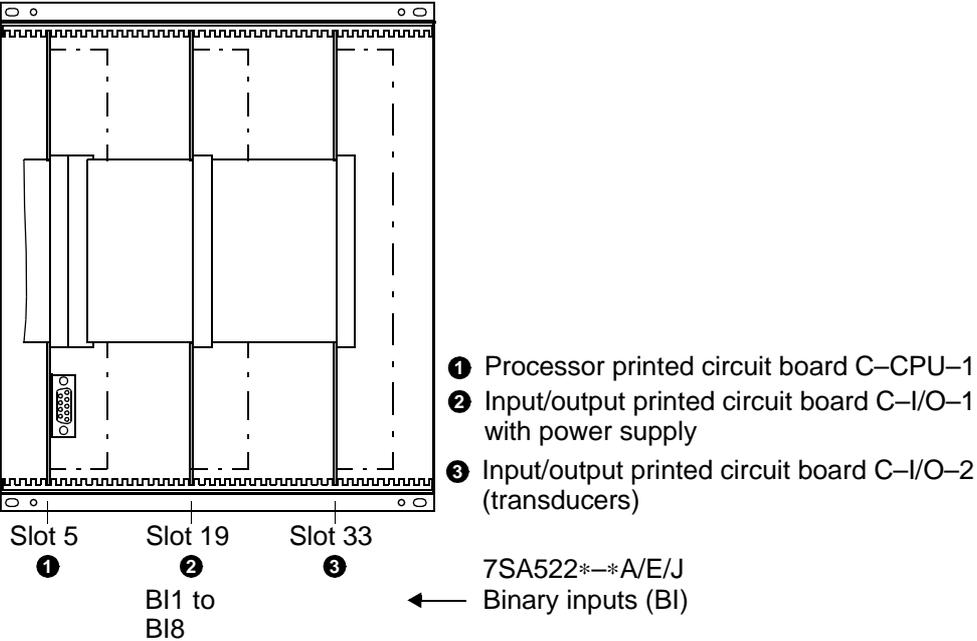
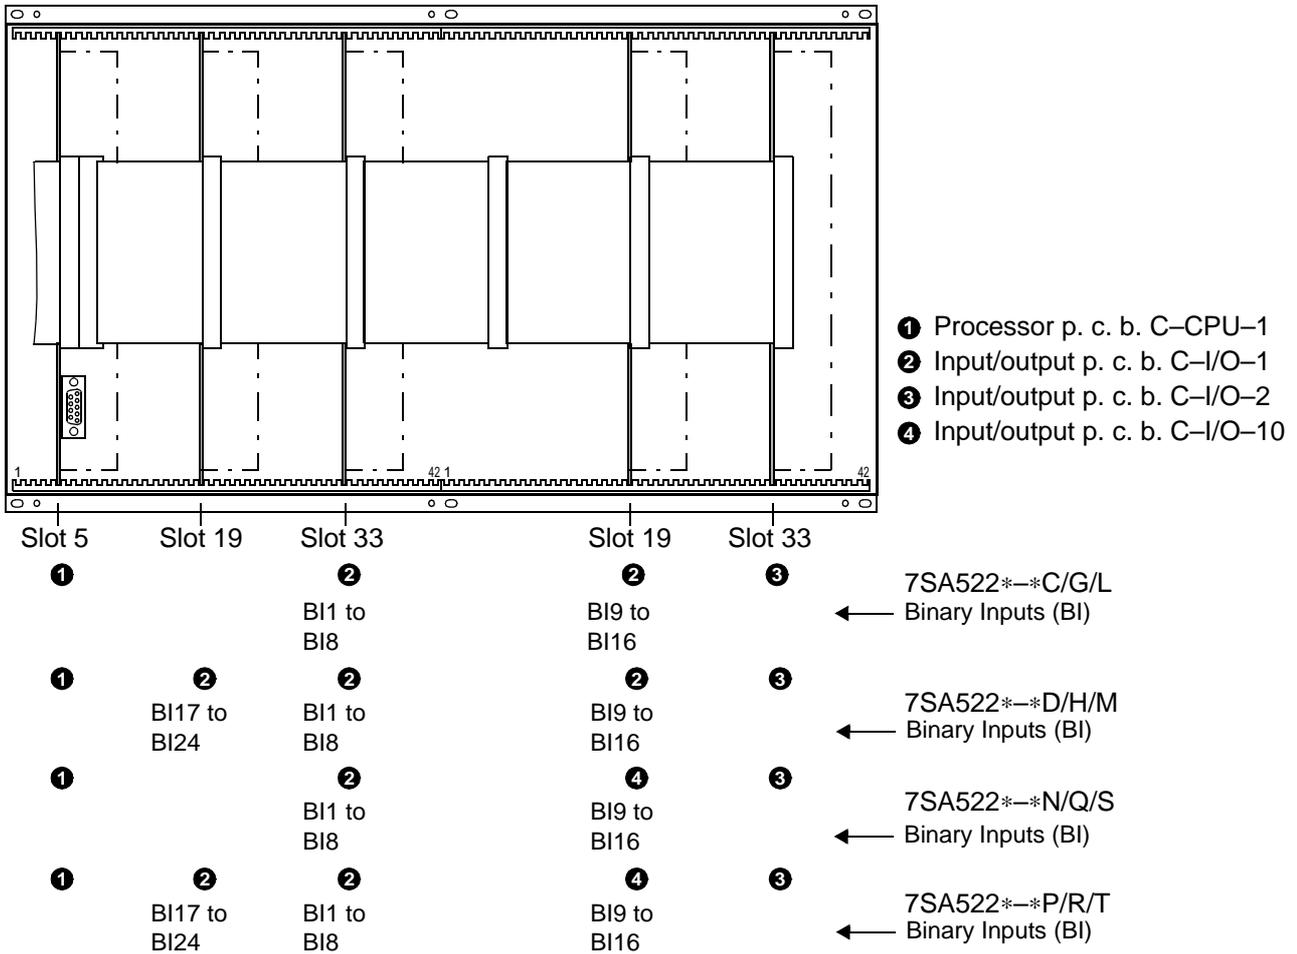

Figure 8-7 Front view of the device with housing size 1/2 after removal of the front cover (simplified and scaled down)
Figure 8-8 Front view of the device with housing size  $\frac{1}{4}$  after removal of the front cover (simplified and scaled down)
The allocation of the boards in the housing size  $1/2$  is shown in Figure 8-7, for housing size  $1/1$  refer to Figure 8-8.
- Refer to Figures 8-7 and 8-8 for the physical arrangement of the printed boards.
- The order of the boards for housing size  $1/2$  is shown in figure 8-7, for housing size  $1/1$  refer to figure 8-8.
for housing size  $1/2$  on the input/output board I/O-1 (● in Figure 8-7, slot 19),
for housing size  $1/1$  on the input/output board I/O-1 (● in Figure 8-8, slot 33 left).
BO16 and BO24 (Figure 8-8, slot 19 left and right);
BO16 (Figure 8-8, slot 19 right);
BO24 (Figure 8-8, slot 19 left).
for housing size  $\frac{1}{2}$  in Figure 8-7, slot 33,
for housing size  $\frac{1}{4}$  in Figure 8-8, slot 33 right.
for housing size  $\frac{1}{2}$  ③ in Figure 8-7, slot 33,
for housing size  $\frac{1}{4}$  ③ in Figure 8-8, slot 33 right.